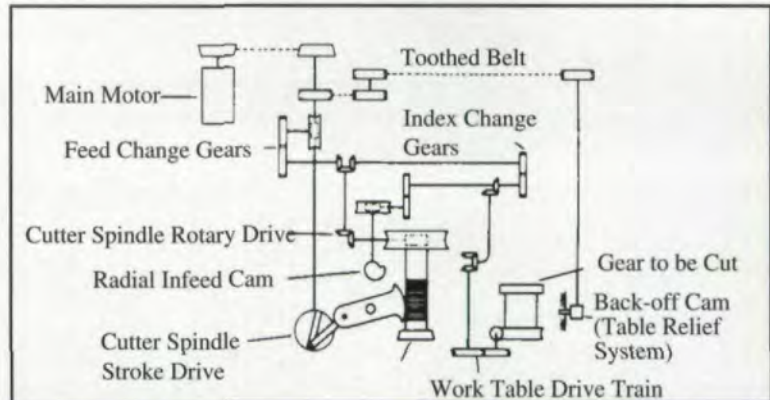

Fig. 5 — "Old Style" table relief machines with numerous drive trains necessitated by having a single drive motor.
3. Larger cutting spindle diameters with proportionally increased horsepower of the main drive motor; for example, a 20" maximum diameter capacity modern machine may have a 3.93" diameter cutter spindle and a 22 horsepower, stroke drive motor, while an old style machine may have a cutter spindle diameter of 3.34" and a 5.7 horsepower motor driving the entire machine, i.e., the cutter spindle stroking and the rotary and radial feed change gears (Fig. 5). Note: Maximum DP rating on this size machine went from 5 DP for the old style machine to 3 DP for the modern machine.